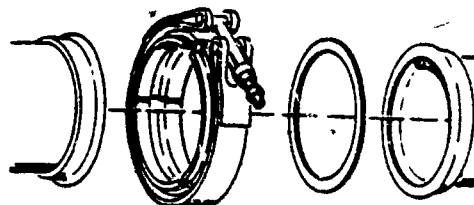

Figure 13.
- ___ 1. The coupling shown in figure 13 is used to join sections of ducting in the bleed air system.